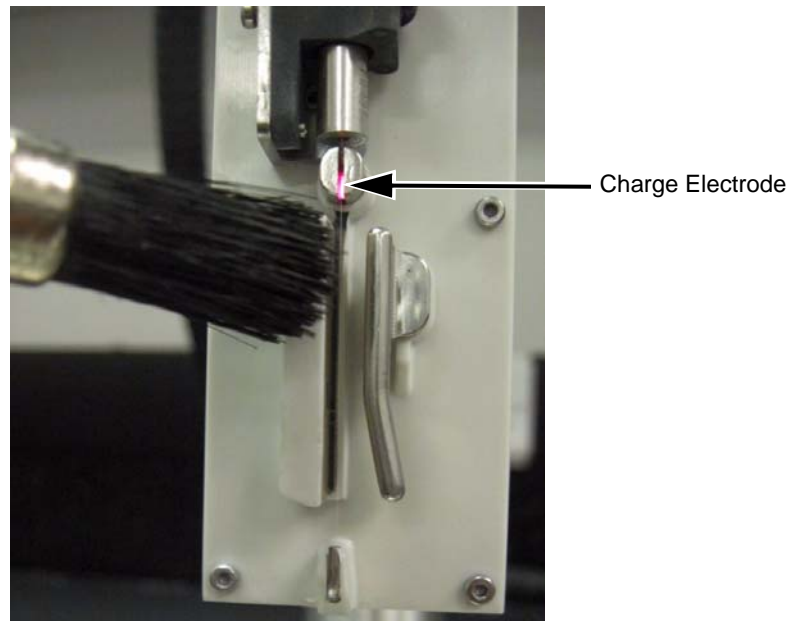

Figure 6-5: Cleaning the Charge Electrode
- 1 Position the printhead in the approved wash station or above a bonded service tray with the nozzle pointing down (Figure 6-5 on page 6-9).